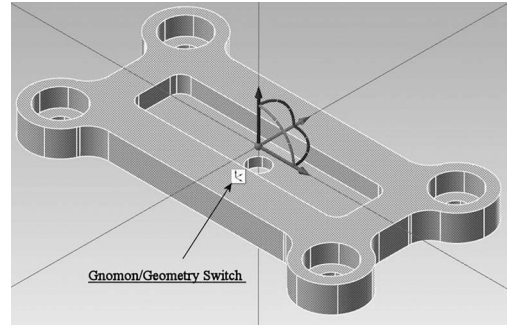

Figure 5-38 Gnomon/Geometry Switch
- Toggle the Gnomon/Geometry Switch to the Manipulate Geometry mode in the graphics display (Figure 5-38). This Manipulate Geometry function will allow the model move to align with the new settings.